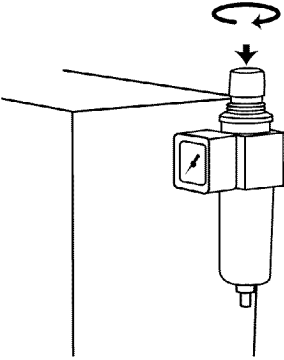

Figure 6
6. When the pressure on the air regulator gauge is set to 65 psi, lock the knob in position by firmly pushing down on it. (See Figure 6)